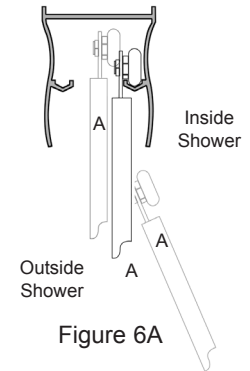

Figure 6A
- Hold the Inside Framed Door Panel (#6) so that the rollers are facing away from you. Standing outside and facing the shower enclosure, lift the Inside Framed Door Panel (#6) up and over the Curb (#2) and then lift the Top Rail (#10) up into the Header (#1) (See Figure 6A).